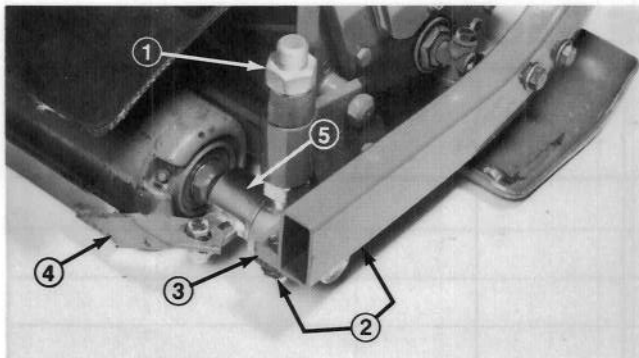

Figure 21
1. Remove top taper nut from each rod end (Fig. 21).
2. Remove four (4) capscrews securing roller to frame and slide roller and rod ends out of bedknife frame (Fig. 21).
3. Remove rod ends and roller extension shafts from both ends of roller (Fig. 21).